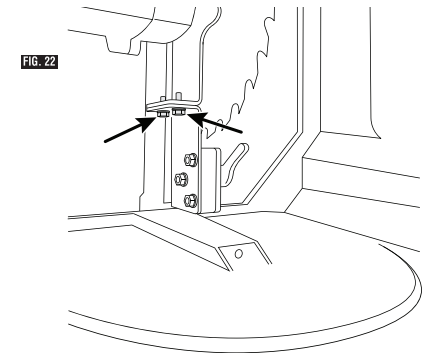
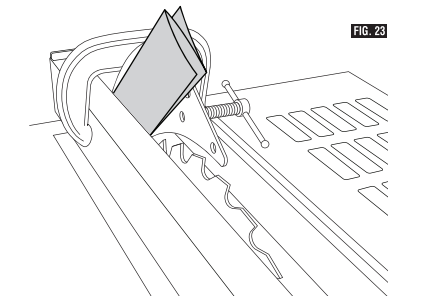

FIG. 22
FIG. 23
8. Loosen the two riving knife attachment screws (Fig 22).
9. With the paper spacing gauge placed between the riving knife and the rip fence, align and clamp the riving knife with the rip fence and the spacing gauge (Fig 23). Retighten the riving knife attachment screws (Fig 22).